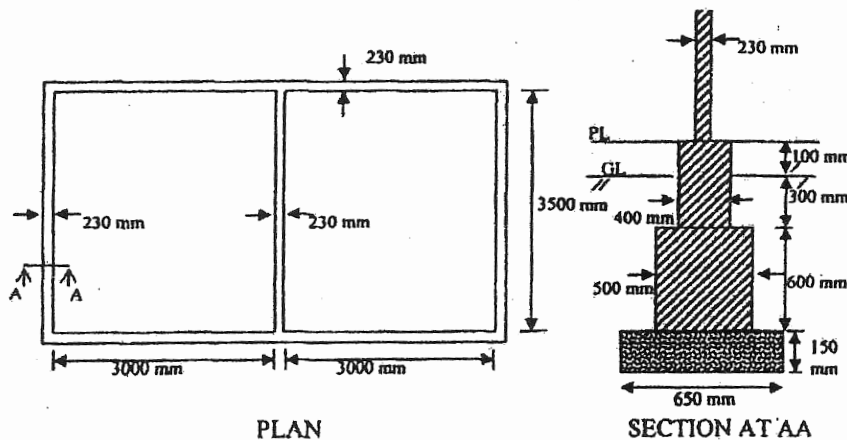

Fig. 1
1. Estimate the following items for the plan and section given in Fig.1